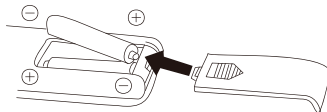

Fig. 2
- 2 Insert the batteries, and make sure that the batteries are placed as shown in Fig. 2.
If it feels tight, try several times and lift the fuse little by little. When one side of the fuse has been lifted, remove the fuse. (Fig. 2)